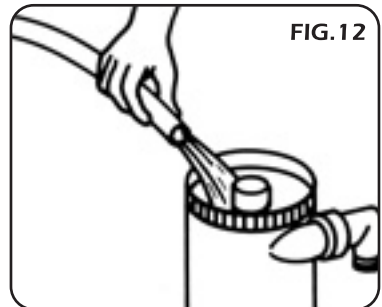

FIG.12
- If the impeller becomes blocked or obstructed, remove base plate (E).
- Rinse the contents with clean water to flush out any remaining particles (FIG.12).
- Replace the base plate, ensuring the correct orientation and that the screws (E) are tight.